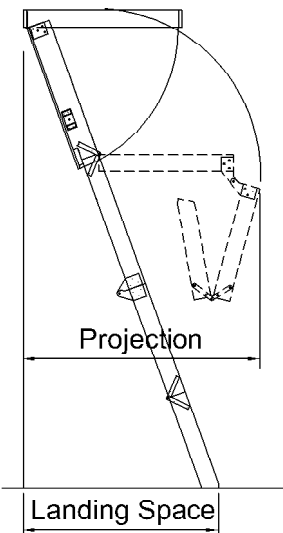

fig. 1
4. Allowance must be made for the operation of the stairs, as they require a greater space to open than indicated by the opening in the ceiling (figure 1). *All dimensions in mm.*